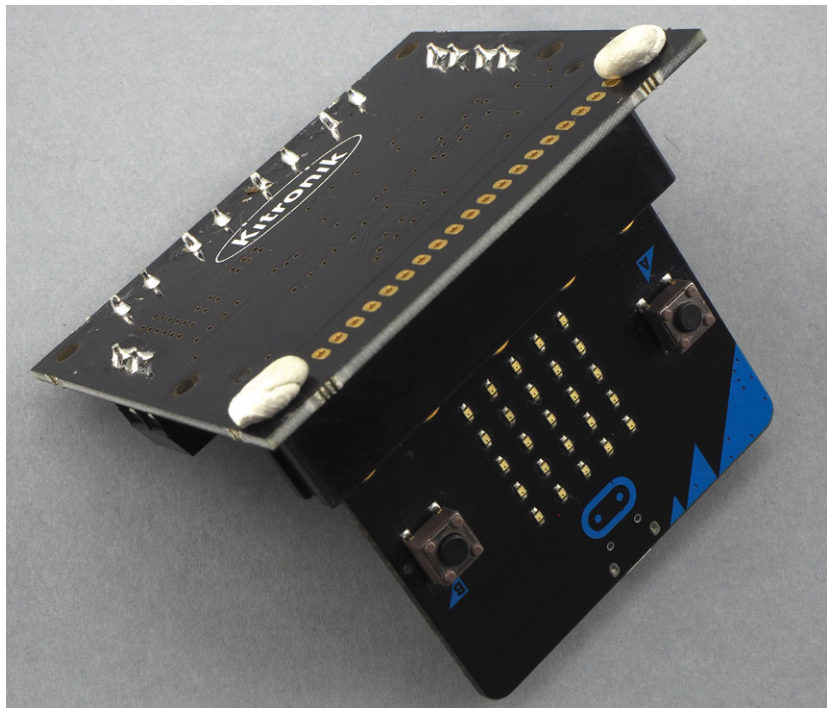

Figure 6-25: Attaching the micro:bit
- 4. Once you have the chassis securely assembled, attach the micro:bit to the Kitronik Motor Driver board with the micro:bit's screen facing outward, as shown in Figure 6-25. Line up the micro:bit's edge connector carefully with the socket on the Motor Controller and press it firmly into place. When your controller looks like Figure 6-25, stick it to the chassis using adhesive putty, also shown in Figure 6-25.